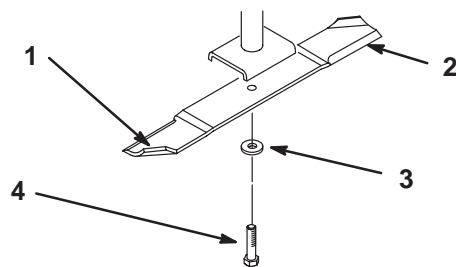
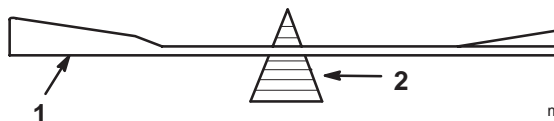

Figure 27
Figure 29
Hold the blade end using a rag or thickly-padded glove. Remove the blade bolt, spring disk, and blade from the spindle shaft (Fig. 27).
2. Check the balance of the blade by putting it on a blade balancer (Fig. 29). If the blade stays in a horizontal position, the blade is balanced and can be used. If the blade is not balanced, file some metal off of the end of the sail area only (Fig. 27). Repeat this procedure until the blade is balanced.
1. Install the blade onto the spindle shaft (Fig. 27).
2. Install the flat washer, lock washer, and blade bolt (Fig. 27). Torque the blade bolt to 85–110 ft.-lb. (115–150 N·m).